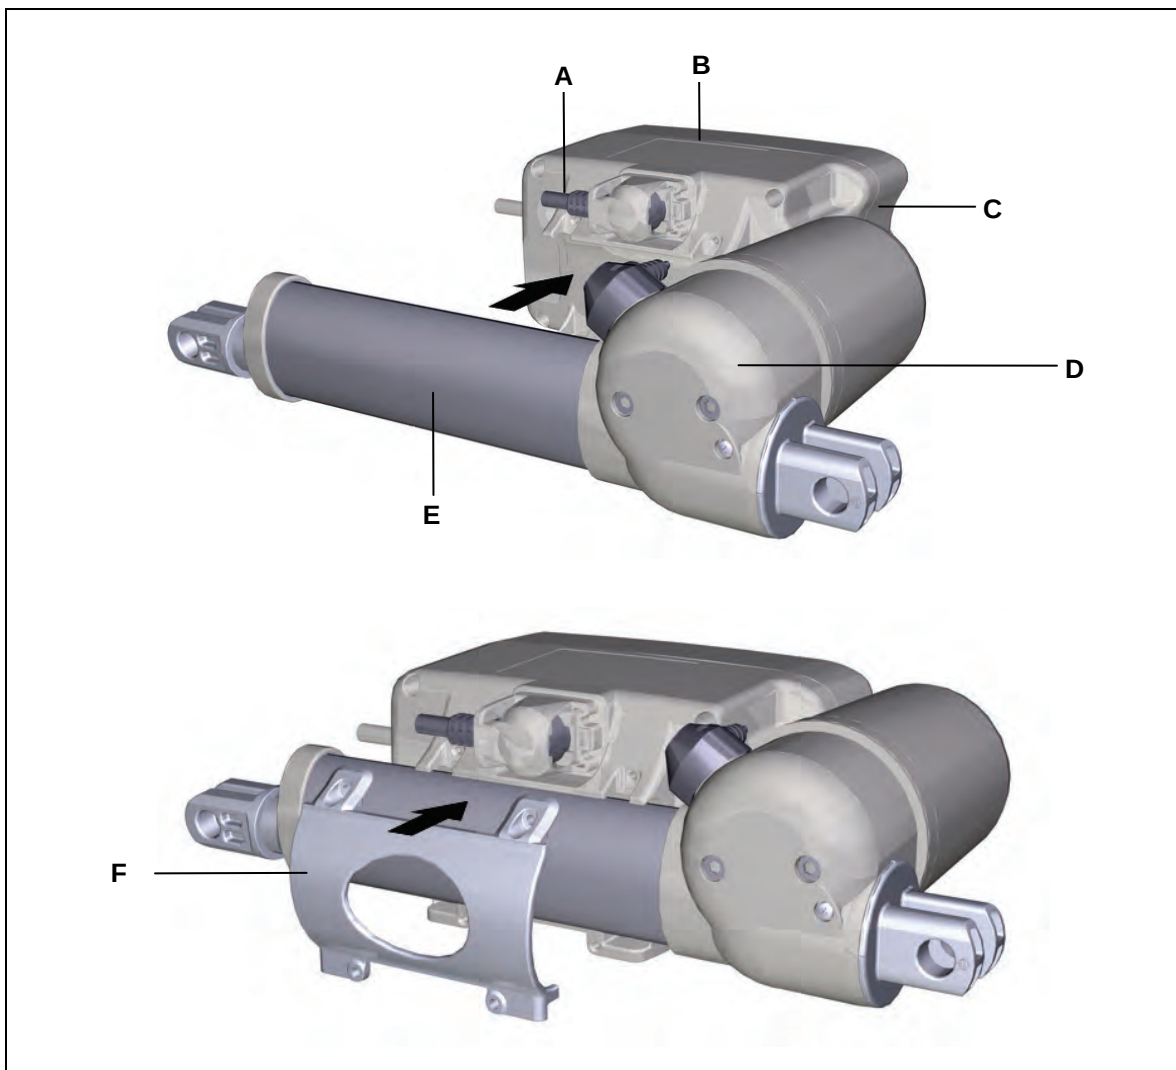

Figure 11 Fitting the Megamat MCZ drive onto the MCL II control unit
- 1 Slide the MCZ drive's guide flange (E) into the mounting clip (F) so that the motor casing cover lies in the guide (C) as shown in Figure 11.
- 2 Screw the mounting clip (F) onto the MCL II control unit.